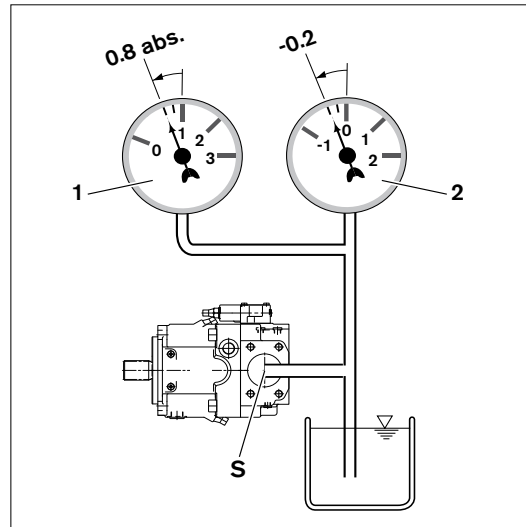

Fig. 7: Suction pressure
- ▶ Make sure that a minimum suction pressure of 0.8 bar without charge pump (0.6 bar with charge pump) absolute is present at port "S" during operation, in all installation positions and installation locations for the axial piston pump, see Fig. 7. See data sheet for additional values.